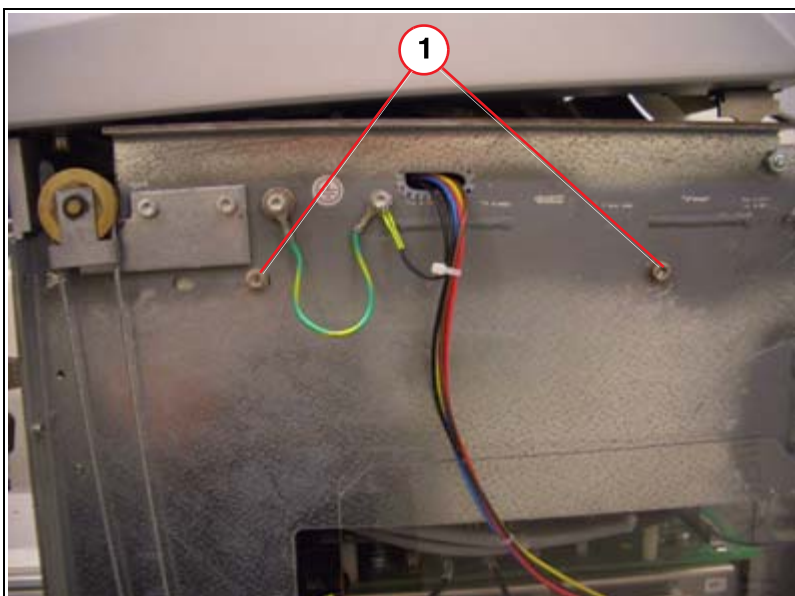

Fig. 70: Mounting screws
- Remove the 4 attachment screws of the cable winch housing (2 per side) (see \(1/ Fig. 70 / p. 76\)).